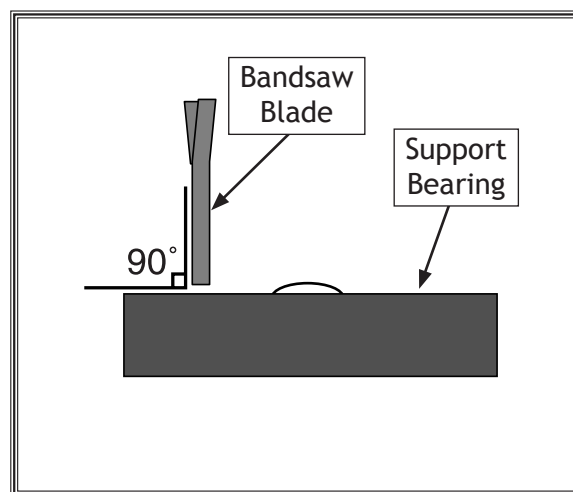

Figure 32. Illustration of blade set perpendicular (90°) to the support bearing face.
4. Loosen the guide block assembly cap screws and rotate the blade guide assembly side-to-side, until the blade is perpendicular with the face of the support bearing, as illustrated in **Figure 32**.
5. Make sure that the blade is perpendicular to the face of the support bearing, as illustrated in **Figure 32** on **Page 25**.